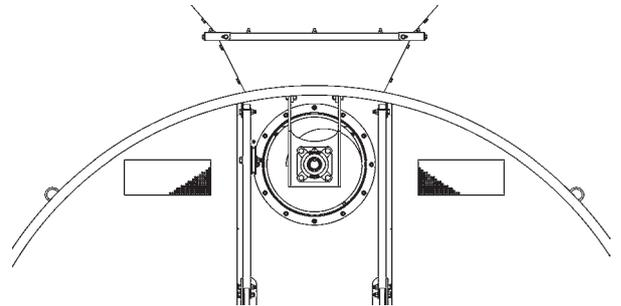

Figure 16 - Auger front
13) Before continuing with the preparation of the grain bag, check that the auger is completely free from obstructions along the entire tube and sleeve, i.e. that it rotates freely. Figure 16 shows the front of the auger.